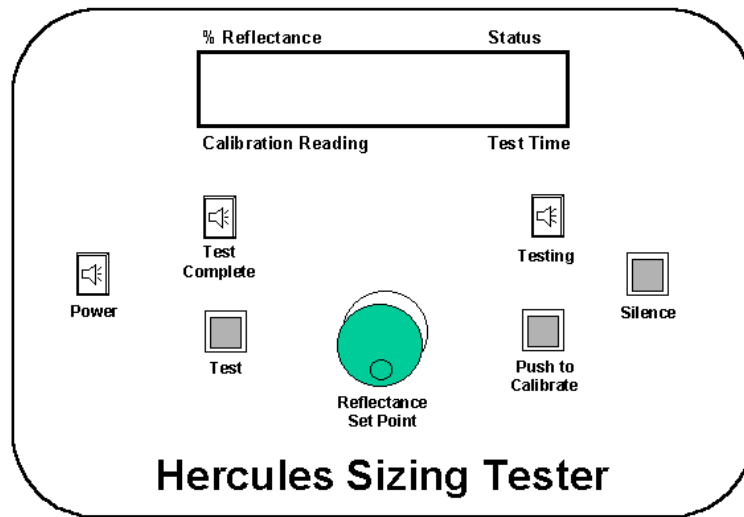

Figure 2-1: HST Operating Panel
2. Set the power switch on back of the instrument to the **ON** position and allow the instrument to warm up (minimum 15 min.) before attempting standardization. The **Power** light on the front panel will illuminate. Press the “**Push to Calibrate**” button to clear the opening screen (Hercules HST V#.#). **See Figure 2-1.**